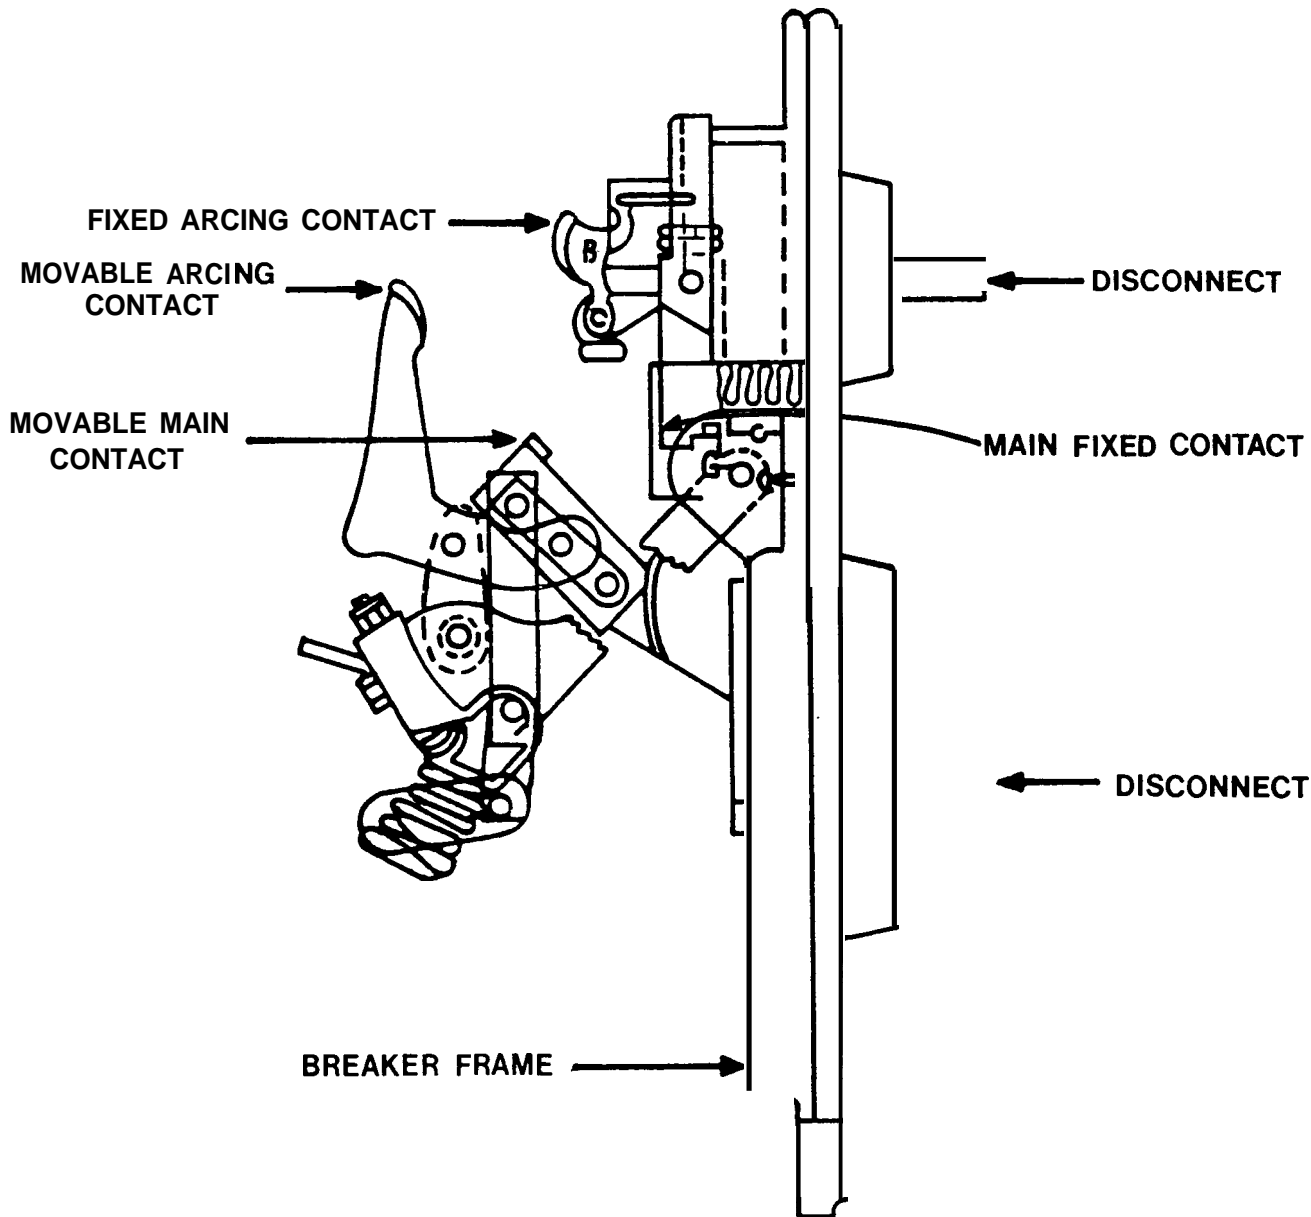

Figure 2-3. Power circuit breaker main and arcing contacts.
(2) *Contacts.* The major function of the power circuit breaker depends among other things upon correct operation of its contacts. These circuit breakers normally have at least two distinct sets of contacts on each pole, main and arcing (fig 2-3). Some have an intermediate pair of contacts which open after the main contacts and before the arcing contacts.